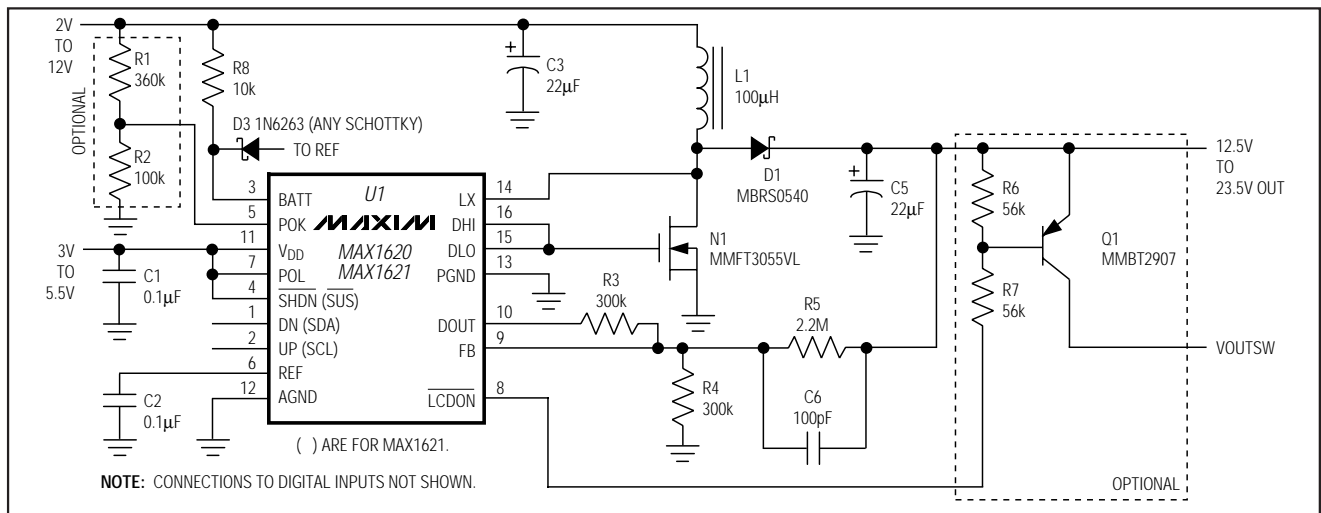

Figure 4. Typical Operating Circuit—Positive Output
To select a positive output voltage, tie the polarity pin (POL) to V_{DD} and use the typical boost topology shown in Figure 4. FB regulation voltage is 1.5V. For optimum stability, V_{OUT} should be greater than $1.1(V_{BATT})$.
To prevent uncontrolled boosting when the output is disconnected, the feedback resistors must sense the boosted voltage rather than the output of the \overline{LCDON} switch (Figure 4).
Separate voltage sources can supply the inductor (L1) and the IC (V_{DD}). This allows operation from low-voltage batteries as well as high-voltage sources because chip bias ($150\mu A$) is provided by a logic supply (3V to 5.5V) while output power is sourced directly from the battery to L1. Conversely, L1 and V_{DD} can also be supplied from one supply if it remains with V_{DD} 's operating limits (3V to 5.5V). If L1 and V_{DD} are fed from the same voltage, D3 and R8 (Figures 4, 5, 6, and 10) can be omitted, and BATT may be connected directly to V_{DD} .
The minimum output voltage is set with a resistor-divider (R4-R5, Figure 4) from V_{OUT} to AGND. The FB threshold voltage is 1.5V. Choose R4 to be 300k Ω so that the current in the divider is about 5 μA . Determine R5 as follows:
The DAC is adjustable from 0V to 1.5V in 32 steps, and 1LSB = 1.5V / 31. DAC adjustment of V_{OUT} is provided by adding R3 to the divider circuit (Figure 4). Be sure that $V_{OUT,MAX}$ does not exceed the LCD panel rating.
- 3) As an input sensing output cutoff for positive outputs. Connect POK to a voltage divider to sense the input voltage. The output is switched on only when the input reaches the set level (Figure 4).
To control the open-drain output \overline{LCDON} by sensing the input voltage, connect a resistor-divider (R1-R2, Figure 4) from V_{BATT} to POK. Choose R2 = 100k. For example, if the minimum battery voltage is 5.3V, determine R1 as follows: